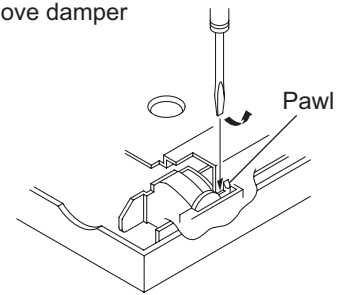

Fig.7
3.1.5 Removing the mechanism holder and door assembly (Fig.7, 8)
Insert an ordinary (-) screwdriver or the like in to the gap between the damper and the front panel to disengage the pawl, and draw the damper assembly outwards. (See Fig.7)